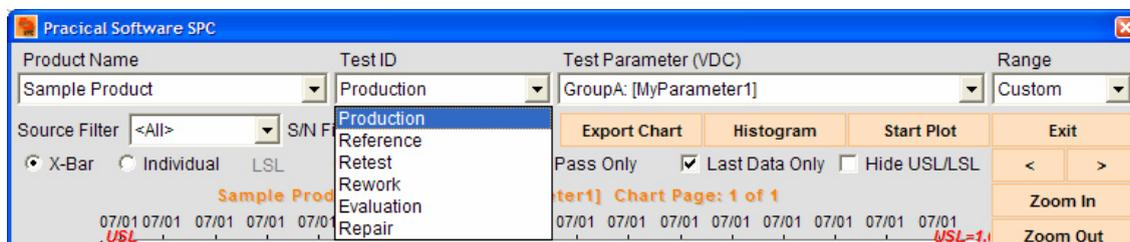

Figure 6 Test ID List Box
**TestID** that available for selection (see Figure 6), each item will separate by comma. This is a filter key, for instance, if you choose **Production** PSSPC will select only records that present the word **Production** in field TestID of database.